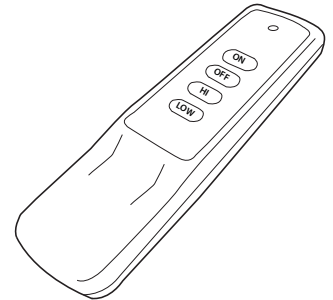

Fig. 28 Transmitter
3. Press the **ON** button on the transmitter (Fig. 28) You will hear the ignitor probe begin sparking for 15-seconds and the fire pit will turn ON.